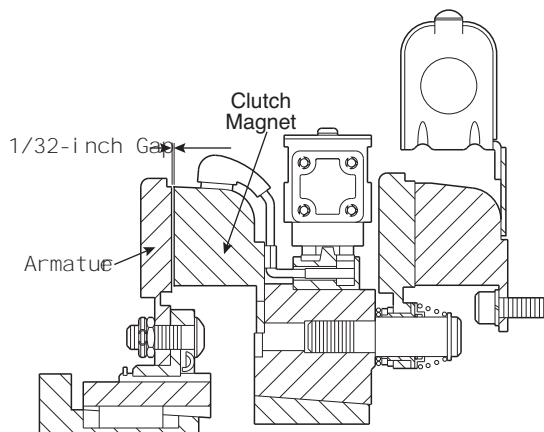

Figure 15
2. Tighten the bushing capscrews, taking a few turns at a time on each capscrew. As the capscrews are tightened, the armature will back away slightly from the magnet. There should be a clearance of  $1/16$ " between the armature and magnet when the capscrews are completely tight. (Figure 15)